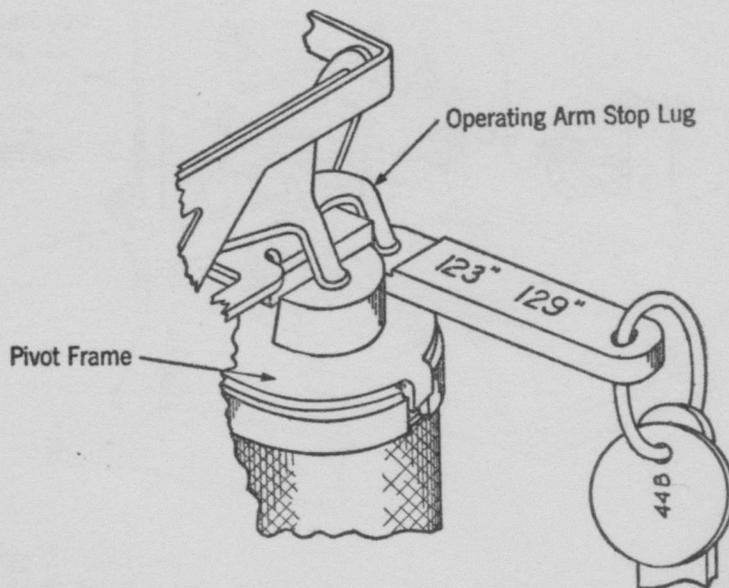

Fig. 14
5.11 With armature in the normal position the space between the pivot frame and the operating arm stop lugs which limit the armature travel shall be within the limits of minimum .123" and maximum .129". The relay being checked meets this requirement when the .123" part of the No. 44B gauge enters freely between the lug and the frame (as shown in Fig. 14), and the .129" part of the gauge will only enter with some friction. When the No. 44B gauge is not available the No. 44 gauge may be used in which case the .125" blade may enter with a slight looseness if adjustment approaches the maximum of .129" or may enter with some friction if adjustment approaches the minimum of .123". To adjust proceed as follows: